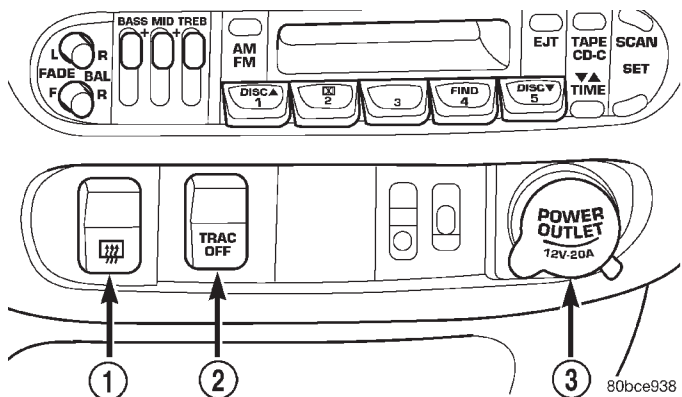
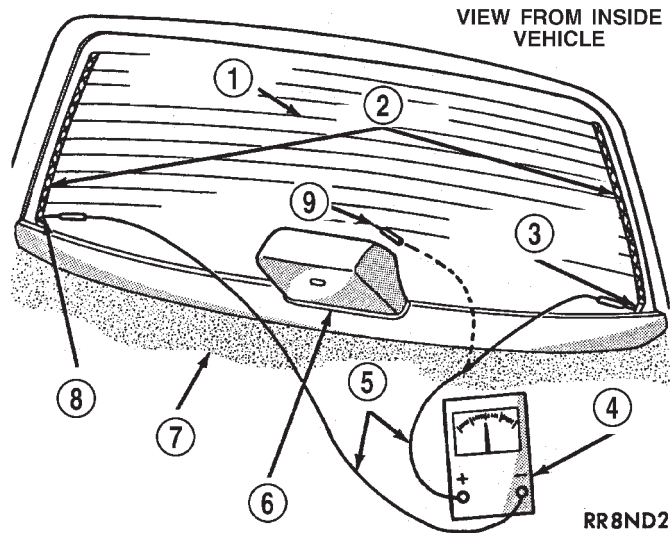

Fig. 2 Rear Window Defogger Switch Location
Fig. 5 Rear Glass Grid Line Test - Typical
The rear window defogger switch is a control switch and timing circuit integrated into a single panel mounted assembly (Fig. 2). Actuating the switch energizes the circuit which allows current to flow through the grid lines. Upon initial actuation for approximately eight to ten minutes, or until either the switch or ignition is turned off. An indicating lamp illuminates a Light Emitting Diode (LED) inlaid in the control switch.
The horizontal grid lines and vertical bus bar lines printed and fired on the inside surface of rear window glass (Fig. 5) comprise an electrical parallel circuit. The electrically conductive lines are composed of a silver-ceramic material which when fired on glass becomes bonded to the glass and is highly resistant to abrasion. It is possible however, that a break may occur in an individual grid line resulting in no current flow through the line. To detect breaks in grid lines the following procedure is required:
(1) Turn ignition ON and turn control switch to ON. The LED should come on.
(2) Using a DC voltmeter with 0-15 volt range, contact terminal (B) with the negative lead of the voltmeter. With the positive lead of the voltmeter, contact terminal (A) (Fig. 5). The voltmeter should read 10-14 volts. A lower voltage reading indicates a poor connection in the feed or the ground circuit.
(3) With the negative lead of the voltmeter, contact a good body ground point. The voltage reading should not change.
(4) Connect the negative lead of the voltmeter to terminal (B) and touch each grid line at Mid-Point with the positive lead. A reading of:
- 0 volts indicates a break in line between Mid-Point (C) and terminal (A).
- 10-14 volts indicates a break between Mid-Point (C) and terminal (B).
Move the lead toward the break and voltage will change as soon as the break is crossed. Refer to (Fig. 5).
(2) Connect an ammeter in series with the battery. Push the rear window defogger switch to the ON position (Fig. 2). A distinct increase in amperage draw should be noted.
(3) The rear window defogger operation can be checked by feeling the glass. A distinct difference in temperature between the grid lines and adjacent clear glass can be detected in three to four minutes of operation.
(4) Using a DC voltmeter, connect the negative lead to Point B, and the positive lead to Point A (Fig. 5). The voltmeter should read 10-14 volts.